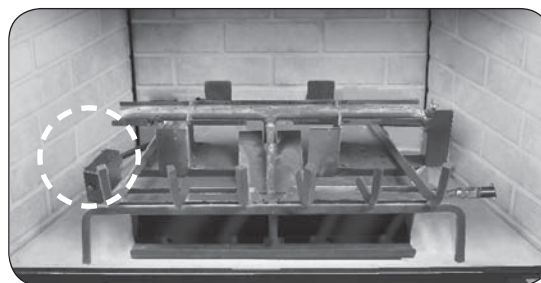
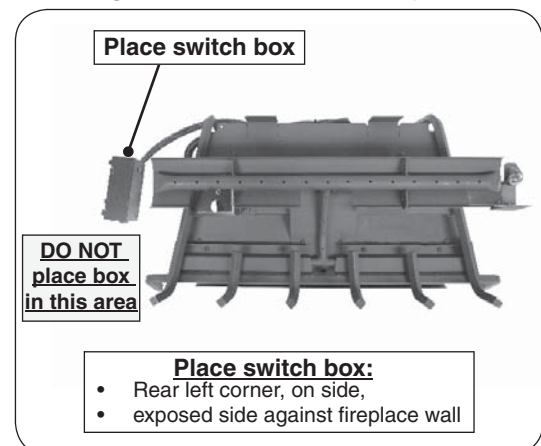

Fig. 12-2 Place switch box
Fig. 12-4 Proper box placement
3. Place the burner system in the fireplace. Center the burner from left to right in the fireplace. (Reference Fig. 12-2 for orientation.)
7. **Place the switch box on its side, at the rear left corner of the fireplace. It should rest with its bottom as near as possible and facing the fireplace wall. It must not be placed directly next to the burner pan area to avoid damage to the batteries.** See Fig. 12-2 & Fig. 12-4.